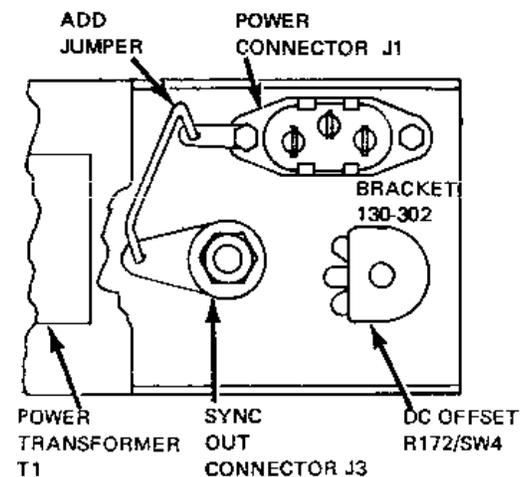

Figure 2-4. Common Ground Connection Diagram
- Solder a jumper wire between the ground lugs (green wires) of the SYNC OUT connector and the power connector (Figure 2-4).